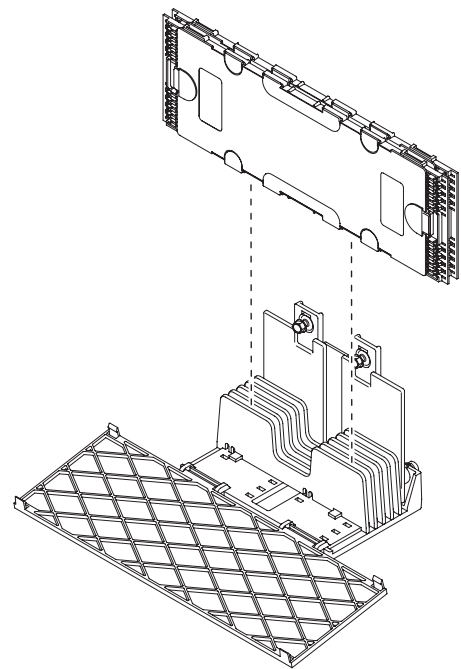

FIGURE 14A—Fiber Trays Stored in Stacker Assembly.
9.03 Completed fiber trays are stored vertically in the stacker assembly as indicated in Figures 14A & B.